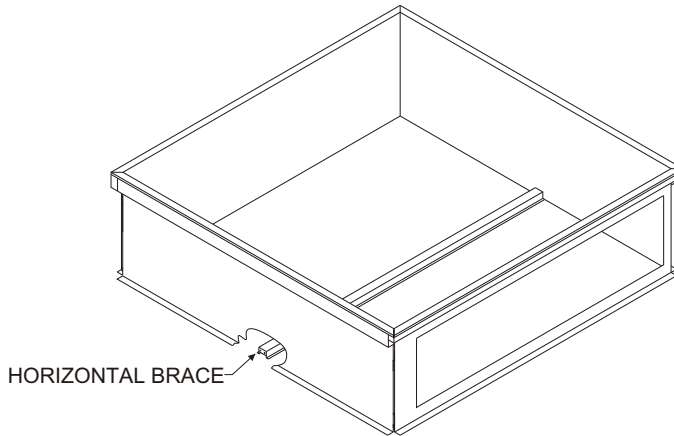

Figure 4
Install horizontal braces (K) to support lower panels. Use prepunched holes to align braces. See Figure 4.